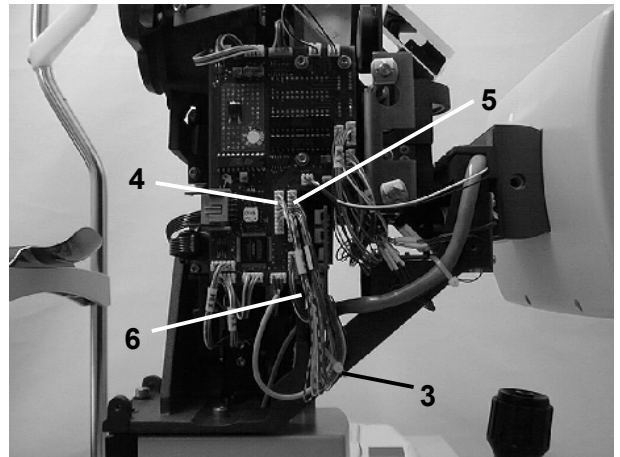

Fig. 22b
- Cut open cable tie ((3) Fig. 22b) and disconnect plug-in connections ((4, 5 and 6 on the APD PCB) Fig. 22b) and remove the cable.